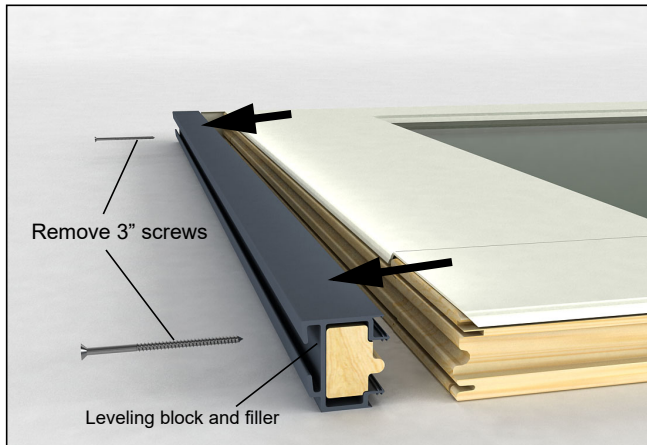

Figure 1
2. Remove the 3" screw that is located through the leveling block and into the stile on the interlocking side of the panel. See figure 1. Remove the leveling block (V1755) and the leveling block filler (W8270) from the panel using a putty knife or pry bar.